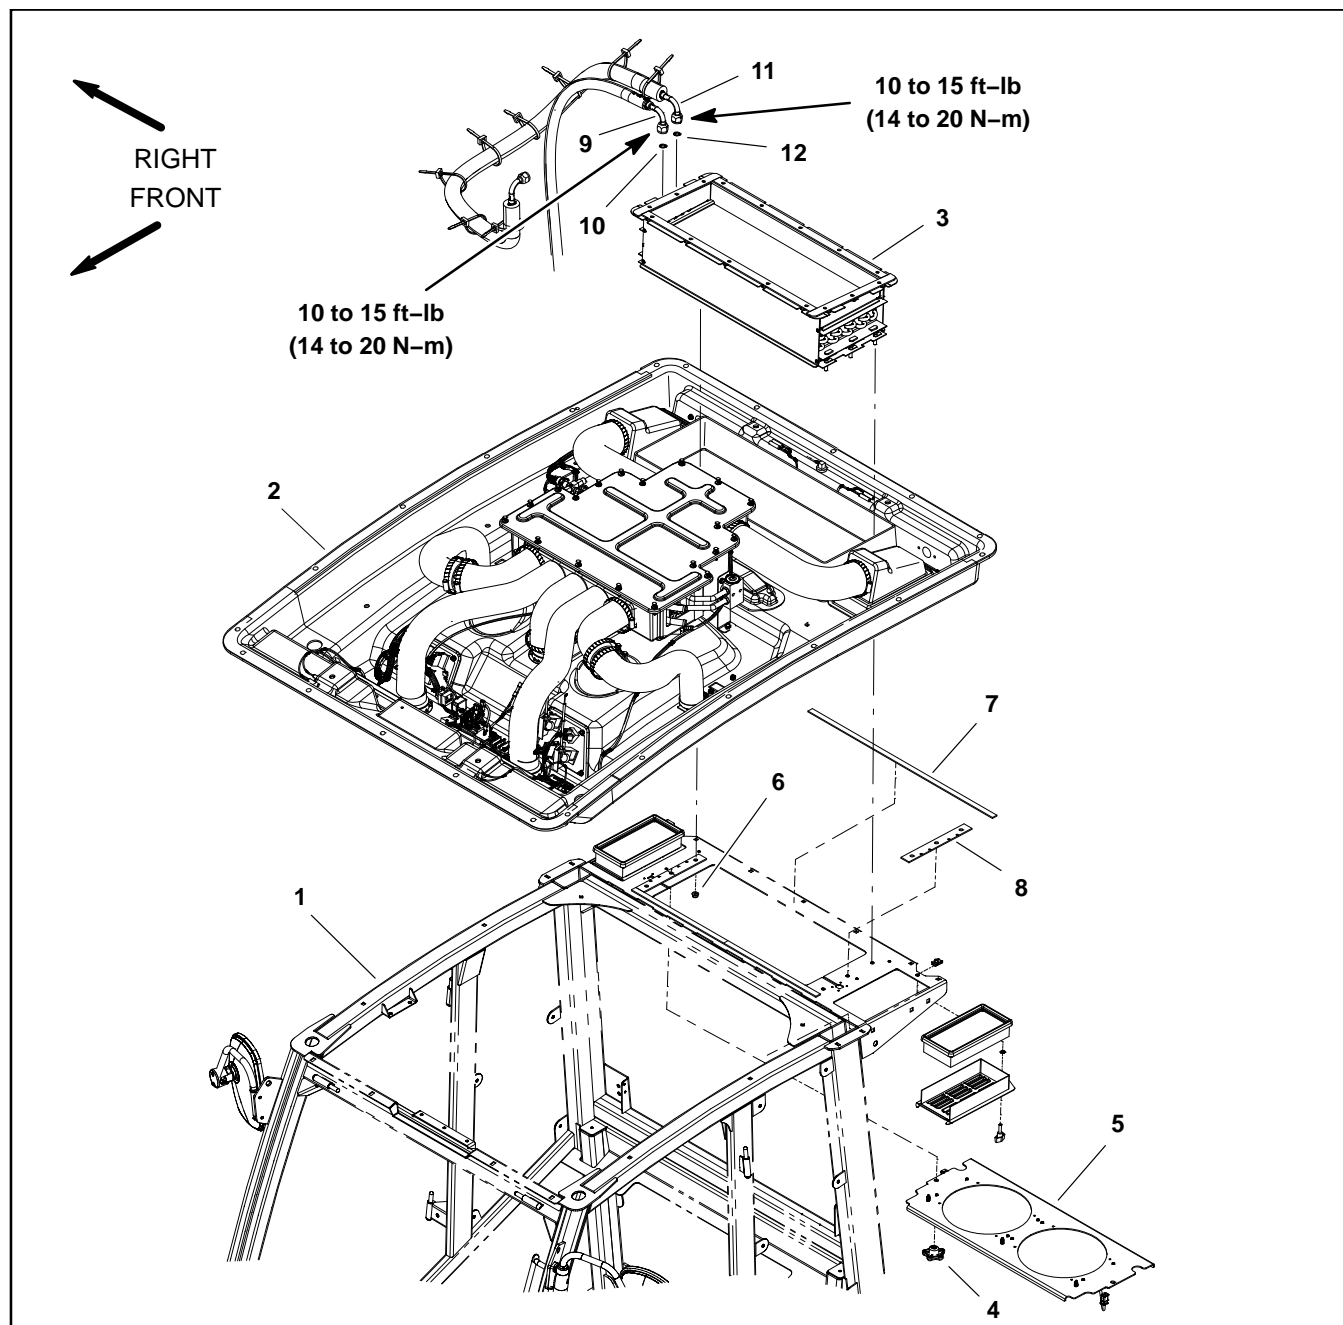

Figure 8
Removal (Fig. 8)
7. Remove four (4) flange nuts that secure A/C condenser assembly to cab frame.
9. Inspect seals (items 7 and 8 in Fig. 8) on top of cab frame for wear or damage and replace if needed.
Installation (Fig. 8)